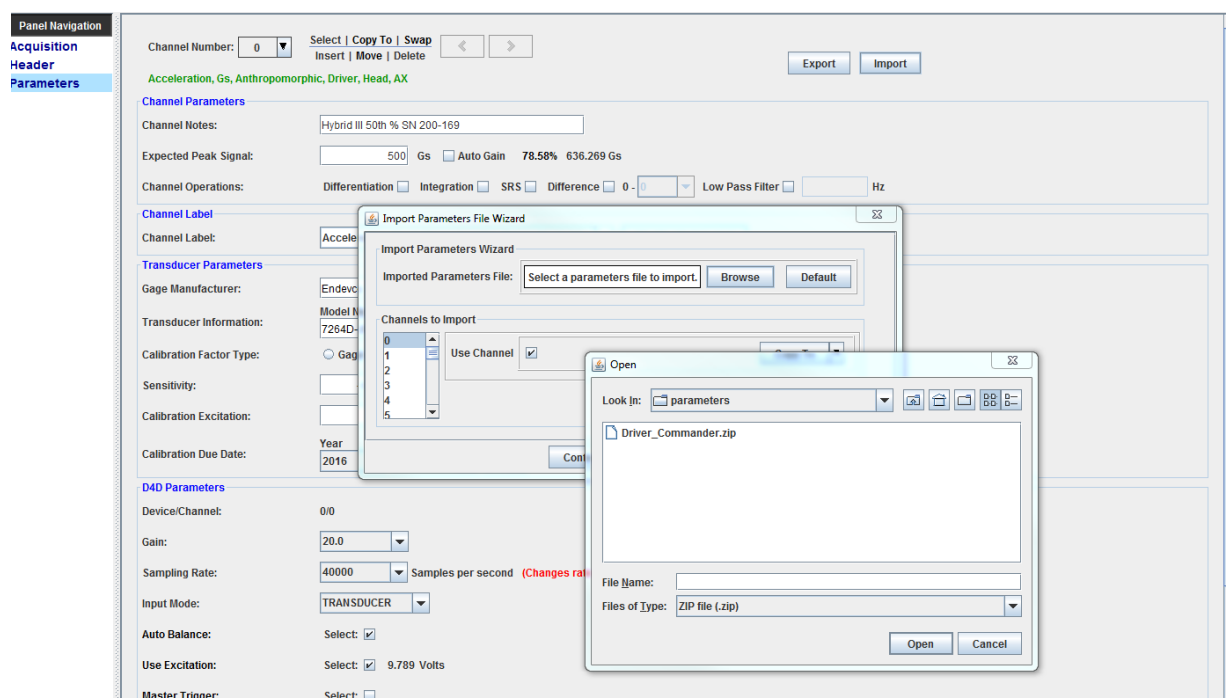

Figure 11. Parameter import.
a. Once the console has loaded it is now time to load the parameters that were previously saved using the Parameter Builder application. To import the parameters, select the Parameters Panel located on the left side of the console. Select import located at the top right of the screen and browse to the location where the parameters were saved (Figure 11). The default location for the saved parameters is located at C:\BTSX\saved\parameters. Click on the file, open and click continue. The parameters should have successfully imported. To verify that the parameters and channels are all active, click select and on the window that appears click select all, then OK.